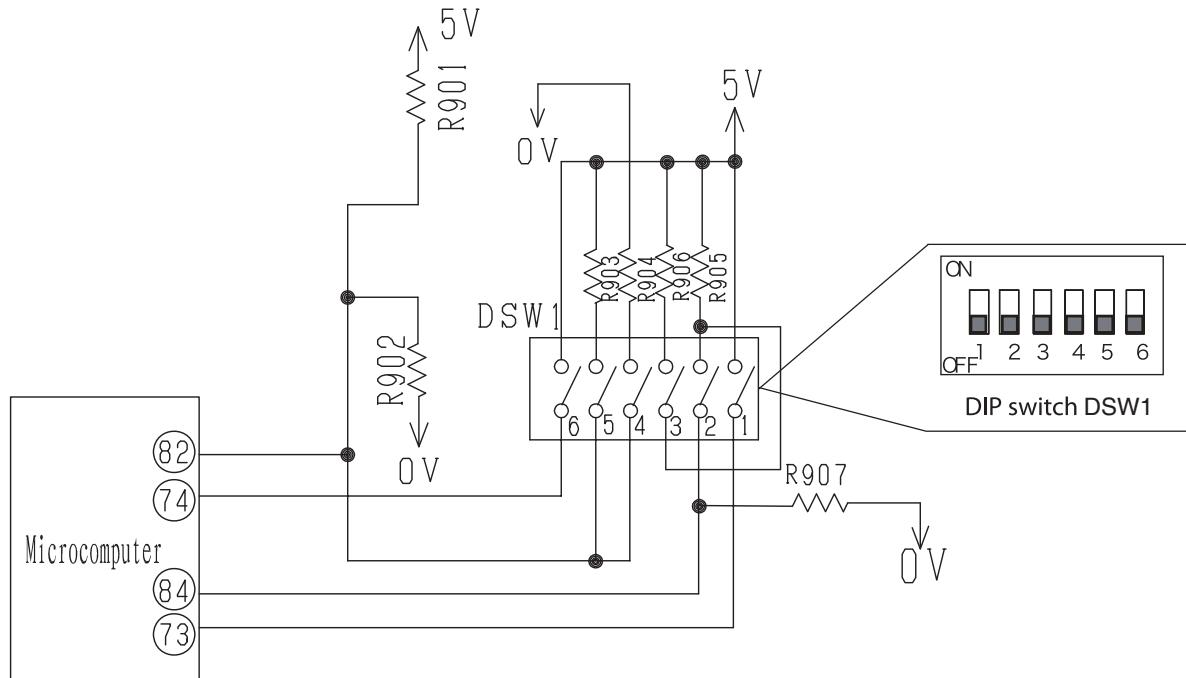

Fig.10-1 Dip switch Circuit
- Fig. 10-1 shows the dip switch circuit; the table shown in Fig.10-2 are function and setting position from ①–⑥ of the switch no.